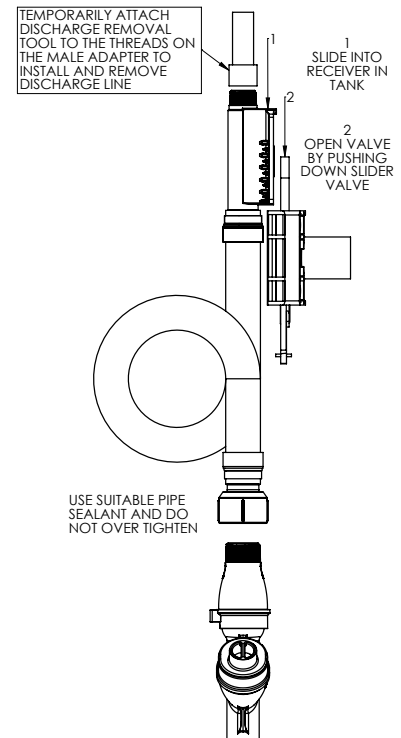

Figure 4
**11. PUMP INSTALLATION:** Install the flex discharge hose on the pump check valve (Fig. 4). Carefully lower the pump into the tank. Rotate discharge hose and male adapter to create a loop or coil. Slide male adapter into slide face receiver until it seats. Push down on slider valve assembly to open (Figs. 4 and 5). **Hang power cable, breather tubing with Equalizer, and lifting rope to prevent them from laying in sewage.** Keep between 18 inches and 24 inches of power supply cable in tank. The Equalizer should be hung as high as possible in the tank. Refer to the "Installation Layout" drawing in the front of this manual.